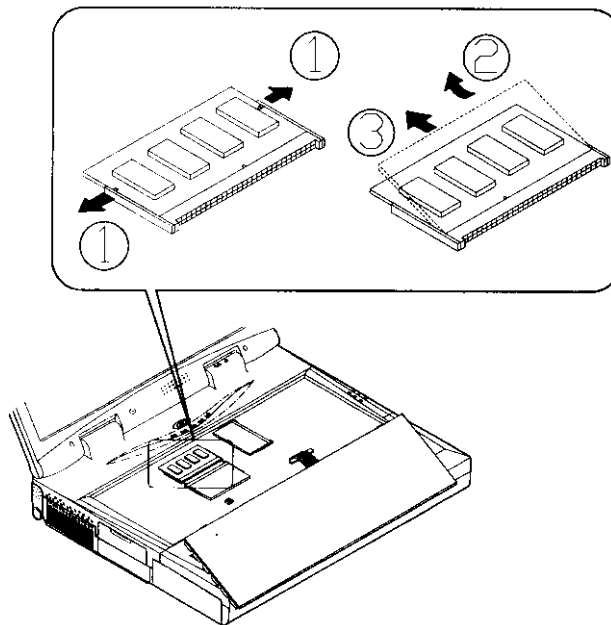

Figure 2-11
4. Gently pull the two latches on both ends of the module outward. The module will pop up (Figure 2-11).